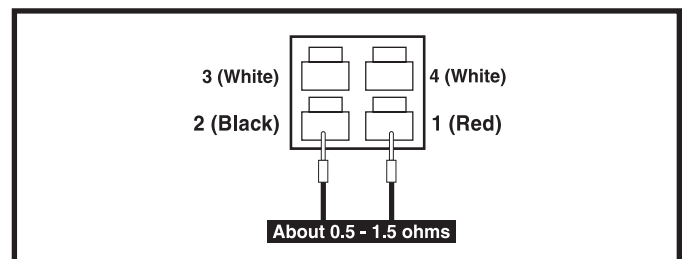

Figure 32. Connector 9a
6. Measure resistance across pin 1 (red) and pin 2 (black) on connector 9a. **See figure 32.**
- If your multimeter indicates 0.5 - 1.5 ohms, then replace the power interface harness (2) and retest the system.